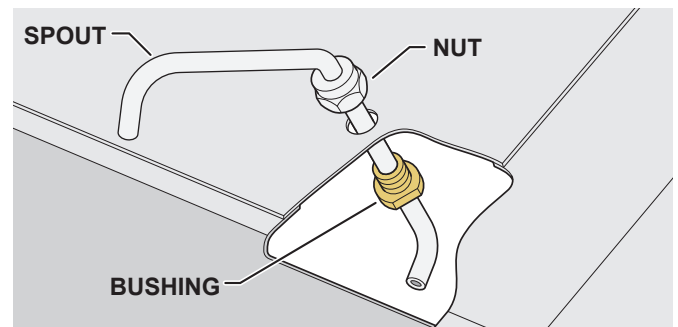

Figure 1. Soap Spout Assembly
1. Remove the bushing from the spout (Figure 1).